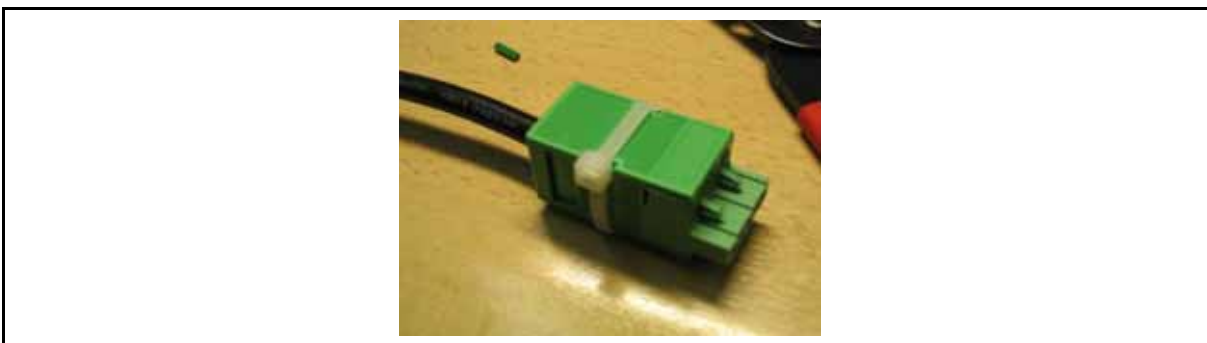

FIGURE 12: POWER SUPPLY COVER AND CABLE TIE
- The full plastic cover must be installed on the power supply connector (as shown on Figure 12).
- The plastic cover must be attached with the cable tie supplied (with the white cable tie around the connector, as shown on Figure 12).